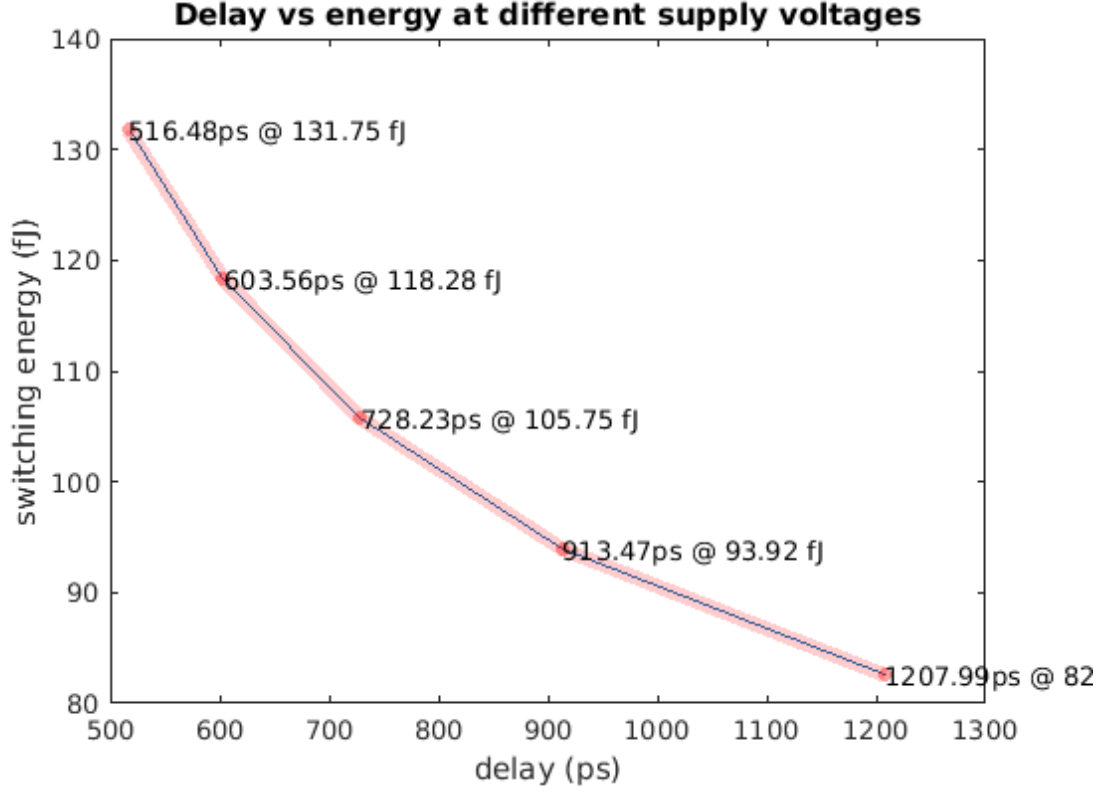

Figure 3: EDP of the optimised adder
- If buffers in the structure buffer a large subcircuit, they will significantly reduce the load on critical path, making it faster. The buffers increase the delay of the path they are placed on, however. This could make those paths the new bottlenecks. The only two minimum-sized buffers that were introduced are situated quite low in the hierarchy so that they don't increase the delays of too many paths (see Figure 3).